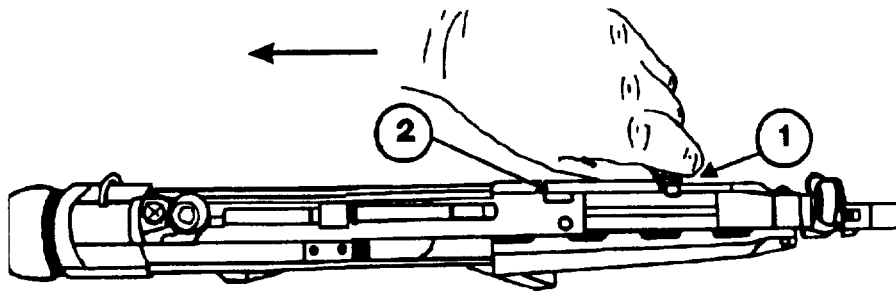

Figure 1-6. Pulling The Charging Handle
c. Charging Handle. Pull the charging handle (1), Figure 1-6, to the rear and lock it into the recess (2). Watch for live round or empty cartridge to be ejected.